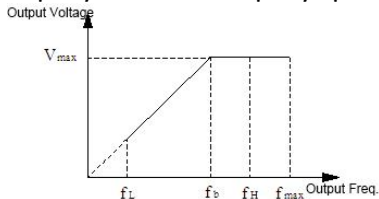

Figure F0-1 Voltage and Frequency
The maximum output frequency is highest allowed frequency for output, and the reference of acc./dec. time setting, as f_{max} showed in the following figure; basic running frequency is the minimum frequency when output highest voltage, usually the rated frequency of motor, as f_b showed in the following figure; the maximum output voltage V_{max} is the output voltage when output basic running frequency, usually rated voltage of the motor, as V_{max} showed in the following figure; f_H , f_L are defined as upper limit frequency and lower limit frequency separately, as showed in figure F0-1:
4. The maximum output frequency, upper limit frequency and lower limit frequency have relations as showed in figure F0-1, please notice the numerical value order when setting.